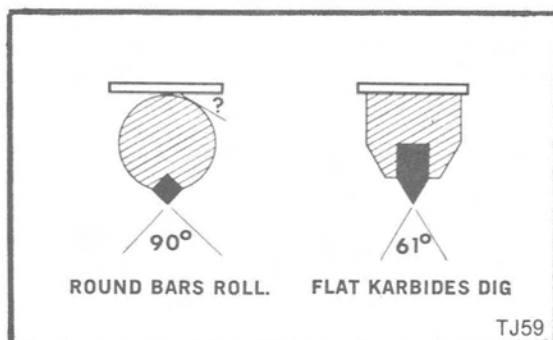

Figure 59
2. Turn forces try to roll a wear bar off its edge. (Figure 59)